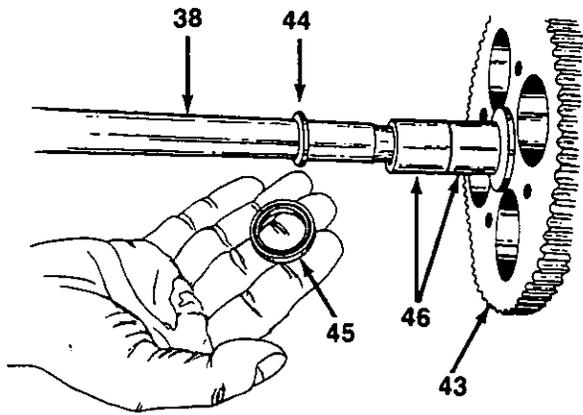

FIGURE 20.
18. Remove the oil seal, flat washer and two sleeve bearings from the left hand axle. See figure 20.